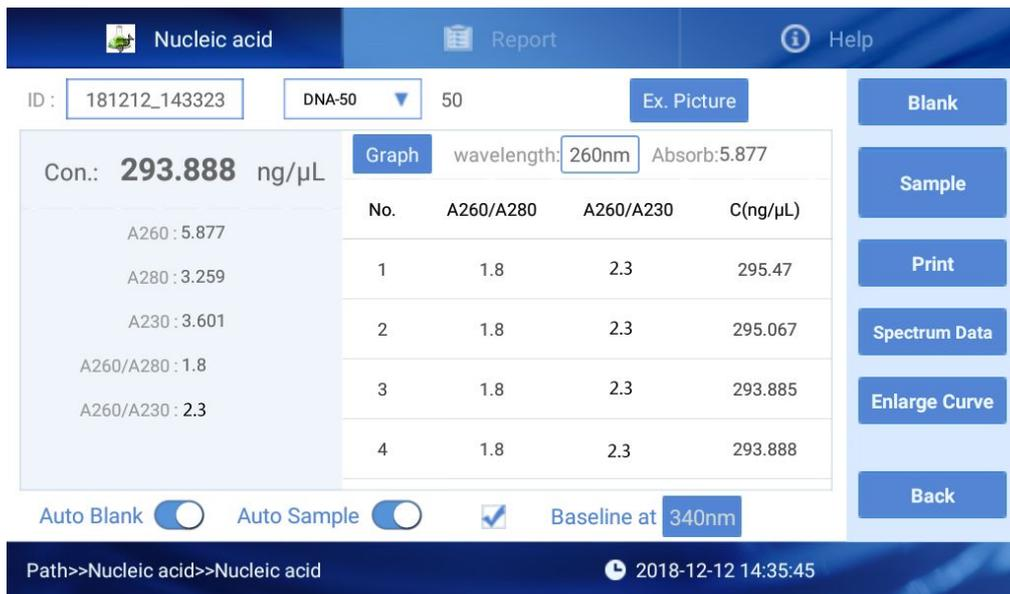

Fig 4.5 Data list
⑥ **Auto Sample**  : Click the right icon to select automatic detection, when it is turned on, it will do the detection automatically once the rotating arm is closed. When it is turned off the icon will be **Auto Sample**
⑦ **Data** : Click it to switch to check the history data list as Fig 4.5, and then click **Graph** to switch to check the curve.
- ① **Ex. Picture** : Export the current interface to the mobile hard disk.
- ② **Sample** : Click it to measure the sample.
- ③ **Print** : Click it to print the data as Fig 4.5 with the equipped printer.
④ **Spectrum Data** : Click it to save the full wavelength detection data, if not, only the data of Fig 4.5 will be saved.
① **Print** : Click it to print the data as Fig 4.5 with the equipped